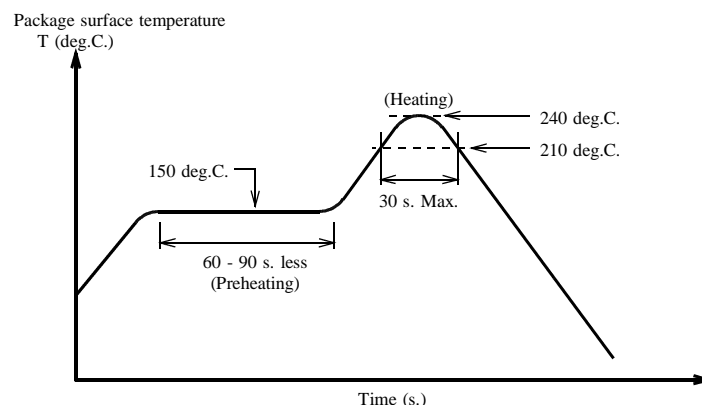

Fig.5-1. Temperature Profile
- (1) Upper and lower heating by far and medium infrared reflow soldering is recommended.
- (2) The temperature must be kept at not less than 210 degrees centigrade for 30 seconds or less while the package surface temperature must not go above 240 degrees centigrade. A recommended temperature profile is shown in Fig. 5-1.
- (3) Note that near infrared reflow soldering produces thermal stress similar to that of dip soldering.
- (1) The temperature must be kept at not less than 210 degrees centigrade for 30 seconds or less while the package surface temperature must not go above 240 degrees centigrade.
- (2) A recommended temperature profile is shown in Fig. 5-1.